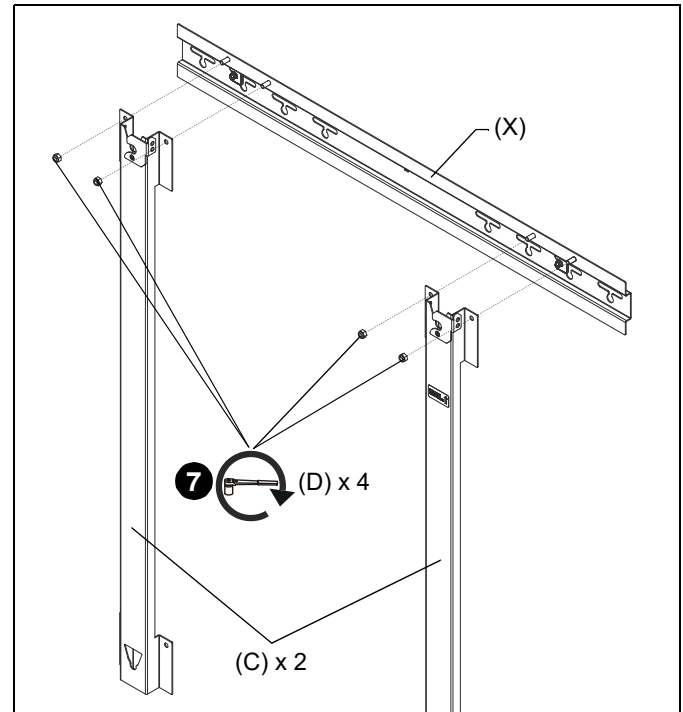

Figure 3
- Loosely install two vertical brackets (C) to upper wall plate (A) using four 5/16-18 lock nuts (D). (See Figure 3)